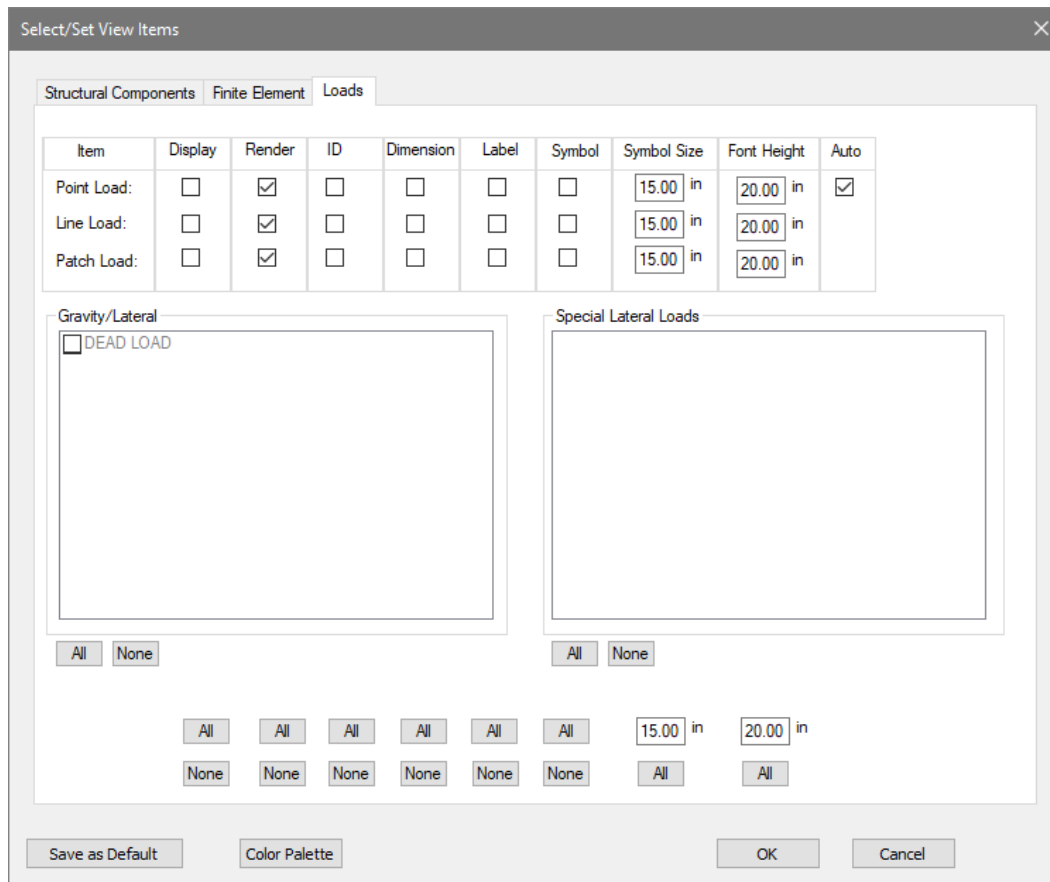

Figure 7-11
- Unselect the display of the loads by unchecking the display boxes as shown in **FIGURE 7-11**.